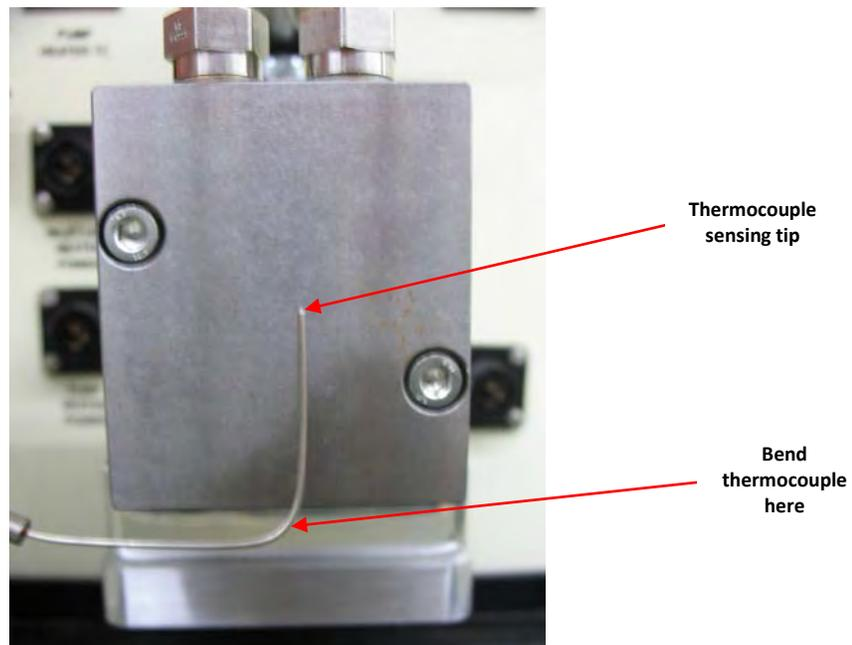

Figure I3 – Thermocouple bends
1. Bend thermocouple so that the sensing tip is approximately half way up from the bottom of the pump (figure I3).